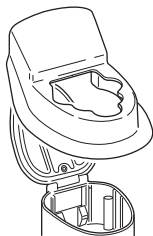

Figure 2 – Place Transfer Shield
2. With the aseptic housing chamber open, place the transfer shield onto the aseptic housing and over its chamber (Figure 2).